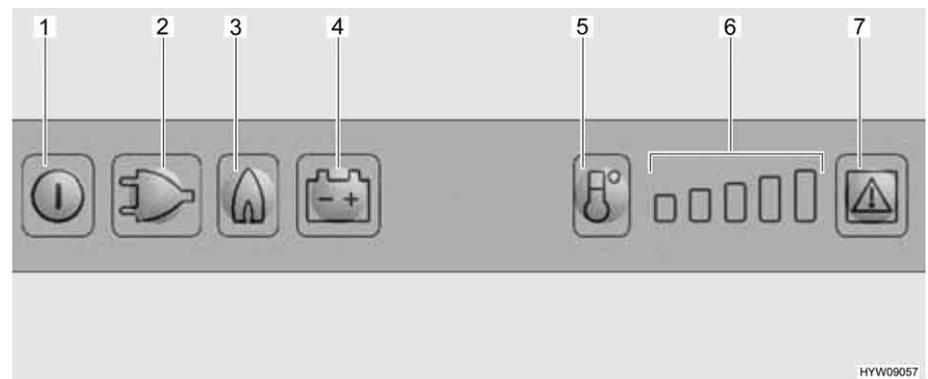

Fig. 209 Operating controls for the refrigerator
- Press and hold the On/Off button (Fig. 209,1) for about 2 seconds. The refrigerator switches itself on. The button of the operating mode chosen most recently lights up.
- If necessary, press the button for the operating mode "Gas" (Fig. 209,3). The button lights up. Gas supply is open. Ignition will take place automatically. A ticking sound can be heard until ignition has been completed successfully.
- Use the temperature range selection button (Fig. 209,5) to set the refrigerating temperature.
- If necessary, press the button for the operating mode "230 V" (Fig. 209,2). The button lights up.
- If necessary, press the button for the operating mode "12 V" (Fig. 209,4). The button lights up.